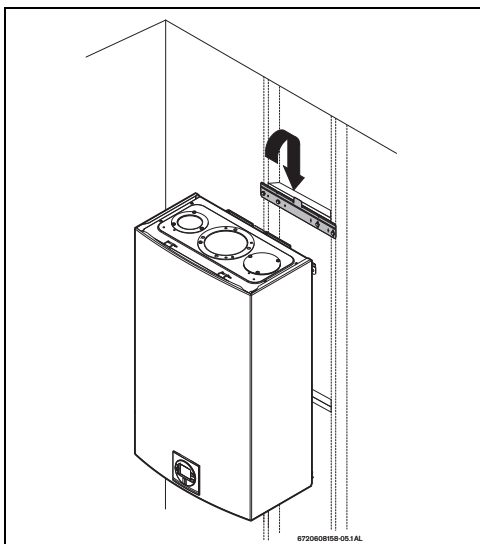

Fig. 33 Mounting the heater
- ▶ Hang the appliance on the bracket, see fig. 33, page 41.